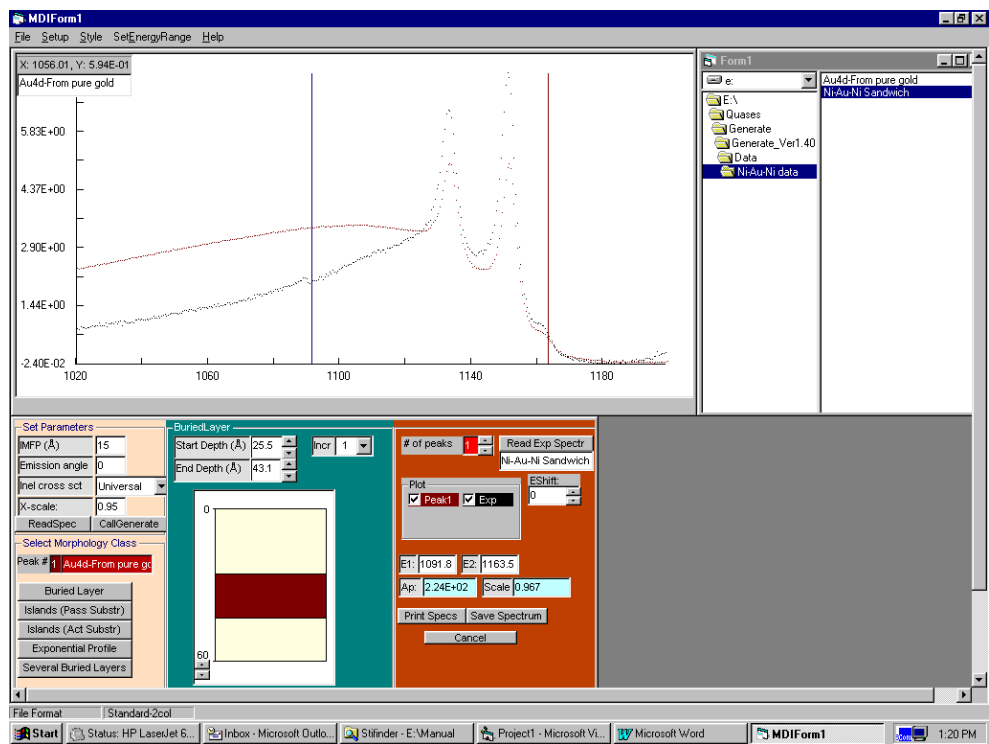

Figure 5.5
2. If there is an energy shift between the model spectrum and the experimental spectrum, this can be corrected for by changing the value of **Eshift** (see fig.5.5). **Eshift** may be changed either by clicking within the textbox and typing the new value or by using the Up-Down arrows next to the **Eshift** textbox. Each mouse click changes **Eshift** by ± 0.5 eV.
- Click **Read Exp Spectr.** and get fig.5.5.